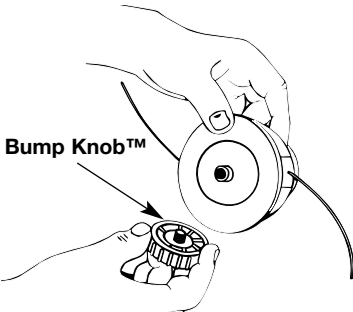

Fig. 13
1. Hold the outer spool with one hand and remove the Bump Knob™ by turning counterclockwise (Fig. 13). Inspect the bolt inside the Bump Knob™ to make sure it will move freely. Replace if damaged.
1. Hold the outer spool with one hand and remove the Bump Knob™ by turning it counterclockwise (Fig. 13, Pg. 15). Inspect the bolt inside the Bump Knob™ to make sure it will move freely. Replace the Bump Knob™ if damaged.